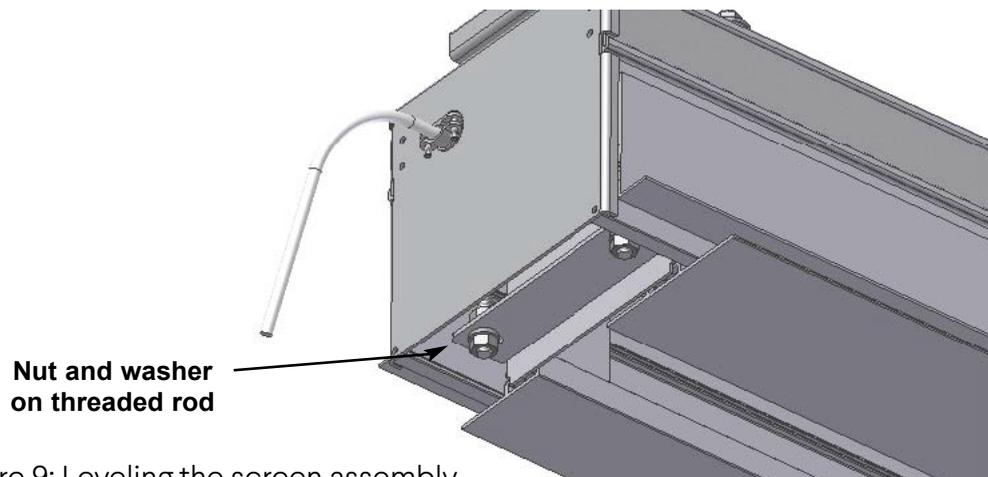

Figure 9: Leveling the screen assembly
6. Level the screen assembly by adjusting the nuts on the internal threaded rods. Refer to Figure 9.